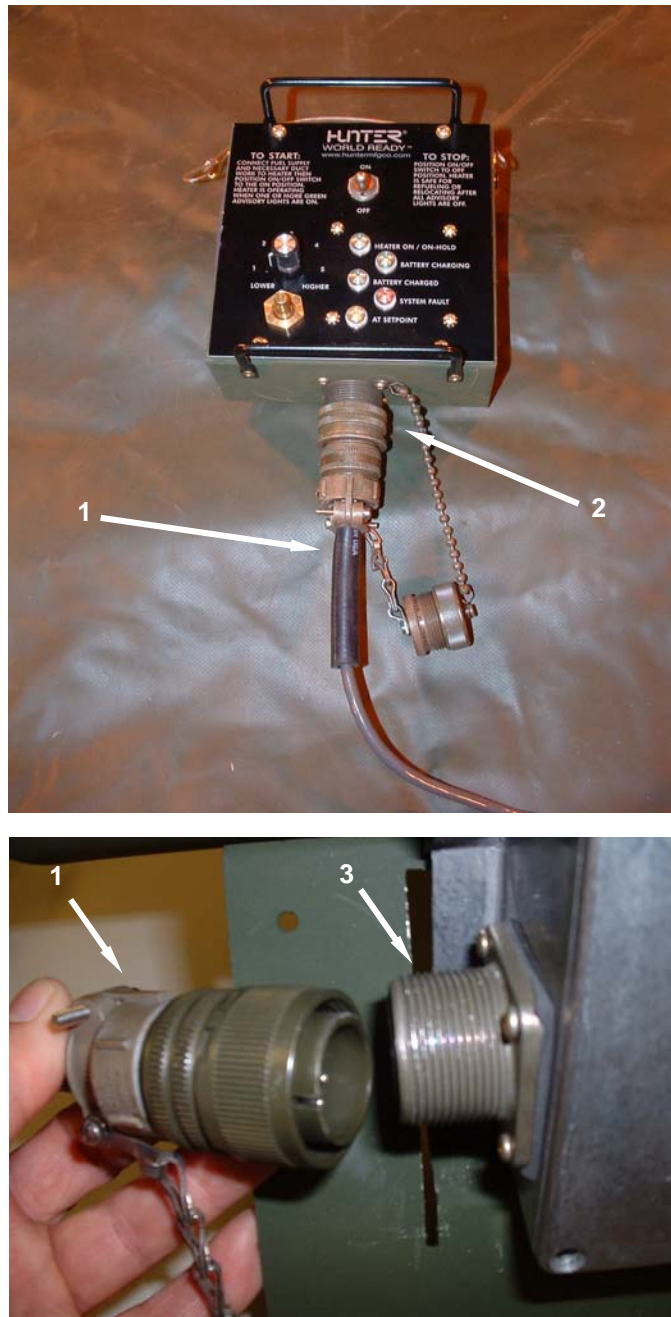

Figure 3. Replace the In-Tent Controller Cable Assembly.
1. Ensure that the in-tent controller cable assembly (**Figure 3, Item 1**) has been completely disconnected from the in-tent controller assembly (**Figure 3, Item 2**) and the heater (**Figure 3, Item 3**).
2. Connect new cable (**Figure 3, Item 1**) to the heater and to the in-tent controller assembly (**Figure 3, Item 2**). Secure connectors at both ends of in-tent controller assembly cable.